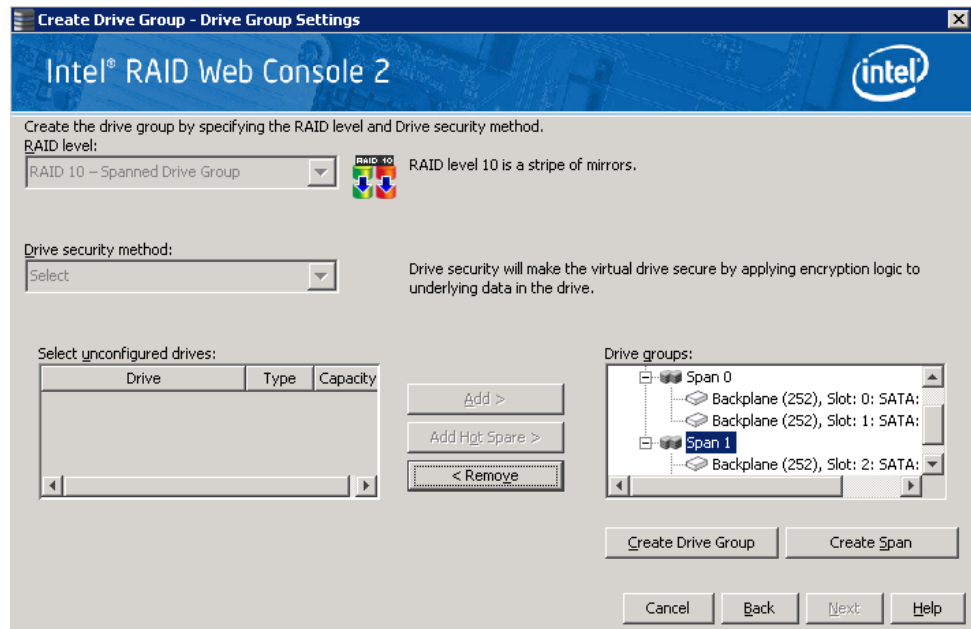

Figure 58. Span 0 and Span 1 of Drive Group 0
- e. The selected drives appear under **Span 1** below **Drive Group 0**, as shown in Figure 58